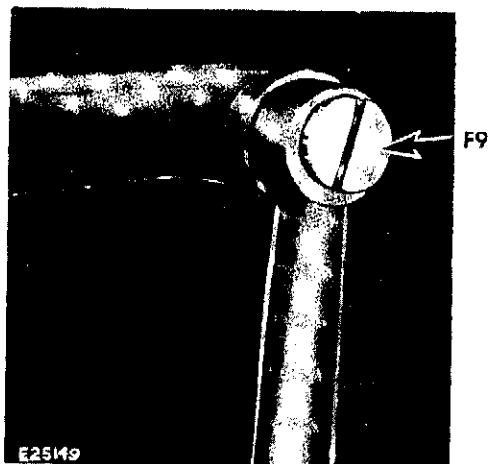

Fig. 158. Releasing Fork at Crank
3. Remove hinge screw **F9, Fig. 158** from crank.
2. Set right end of fork into position at crank and tighten hinge screw **F9, Fig. 158**.